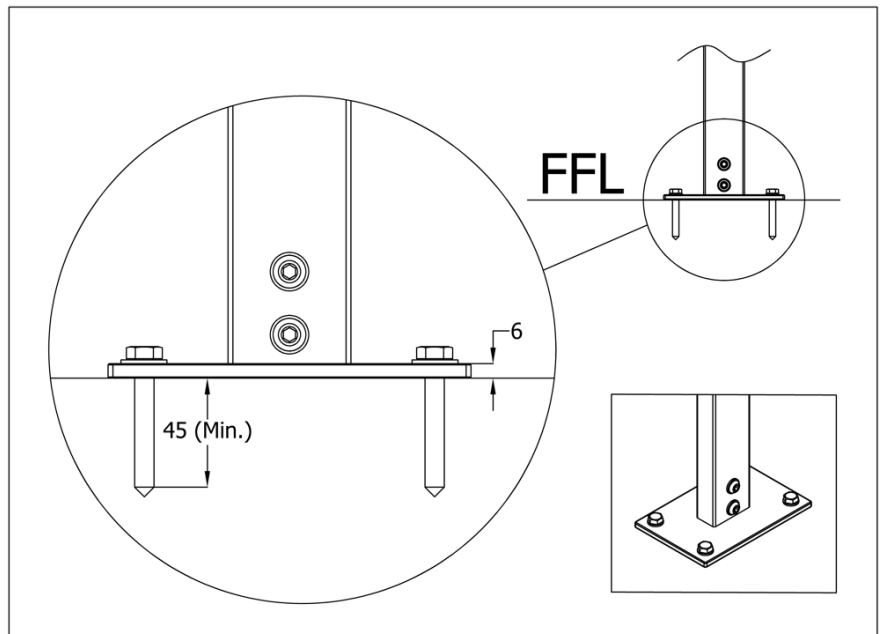

Fig 2. Plated GMK (Surface Mount).
4. Austral recommends using M6 (minimum) or M8 fasteners. Recommended minimum embedment of fasteners is 45mm. (Fig 2).